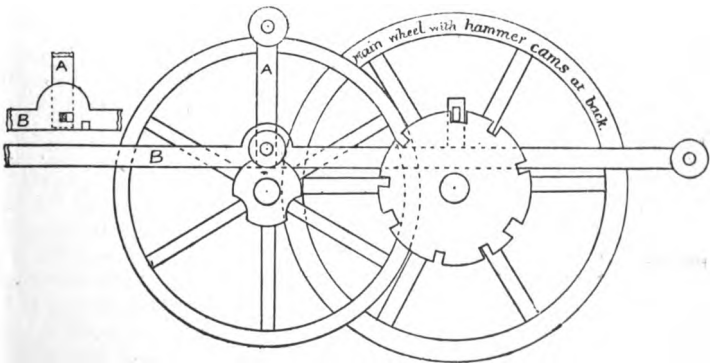

Fig 6.
**Locking Plate Striking.**—Fig. 6 is a drawing of the quarter train of the Knightsbridge Barracks clock, the whole movement of which is depicted under the head of “Turret.” The barrel is on the arbor of the great wheel, and the great wheel making one rotation in three hours has thirty cams, equal to the number of quarters struck during that period. Except for a few minutes before every quarter of an hour, a square pin projecting from the extremity of an arm (A) on the arbor of the fly pinion, bears against the upper of two square blocks on the locking lever (B). This lever is gradually raised by a four-armed snail on the hour wheel, and a few minutes before the quarter it is high enough to allow the pin to escape from the upper to the lower block. A separate view, to show the position of these blocks and the pin in the arm, is given on the left of the principal figure. Exactly at the quarter the snail allows the lever to fall, and the train is free. On the end of the arbor of the second wheel is a cam with three circular hollows, and when the lever is in its lowest position, a roller on it just fits into one of these hollows. As the train begins to move, the cam pressing against the roller lifts the lever, so that as the arm comes round the pin in it passes under the locking blocks. When the great wheel has made a thirtieth of a rotation, a lever for each of the two bells has dropped from the cams, and a “ting-tang” quarter has struck; the second